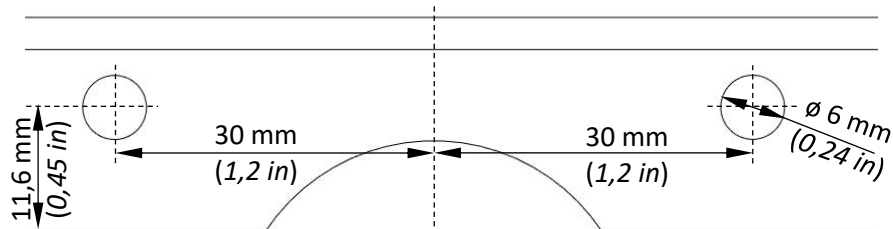

Fig. 2: Drilled holes
- 8) It is necessary to drill 2 x \varnothing 6 mm (0,24 in) holes in the lower reinforcement (001) to pass the riveted rivets. See Fig. 2. Measure the exact position on the aircraft.